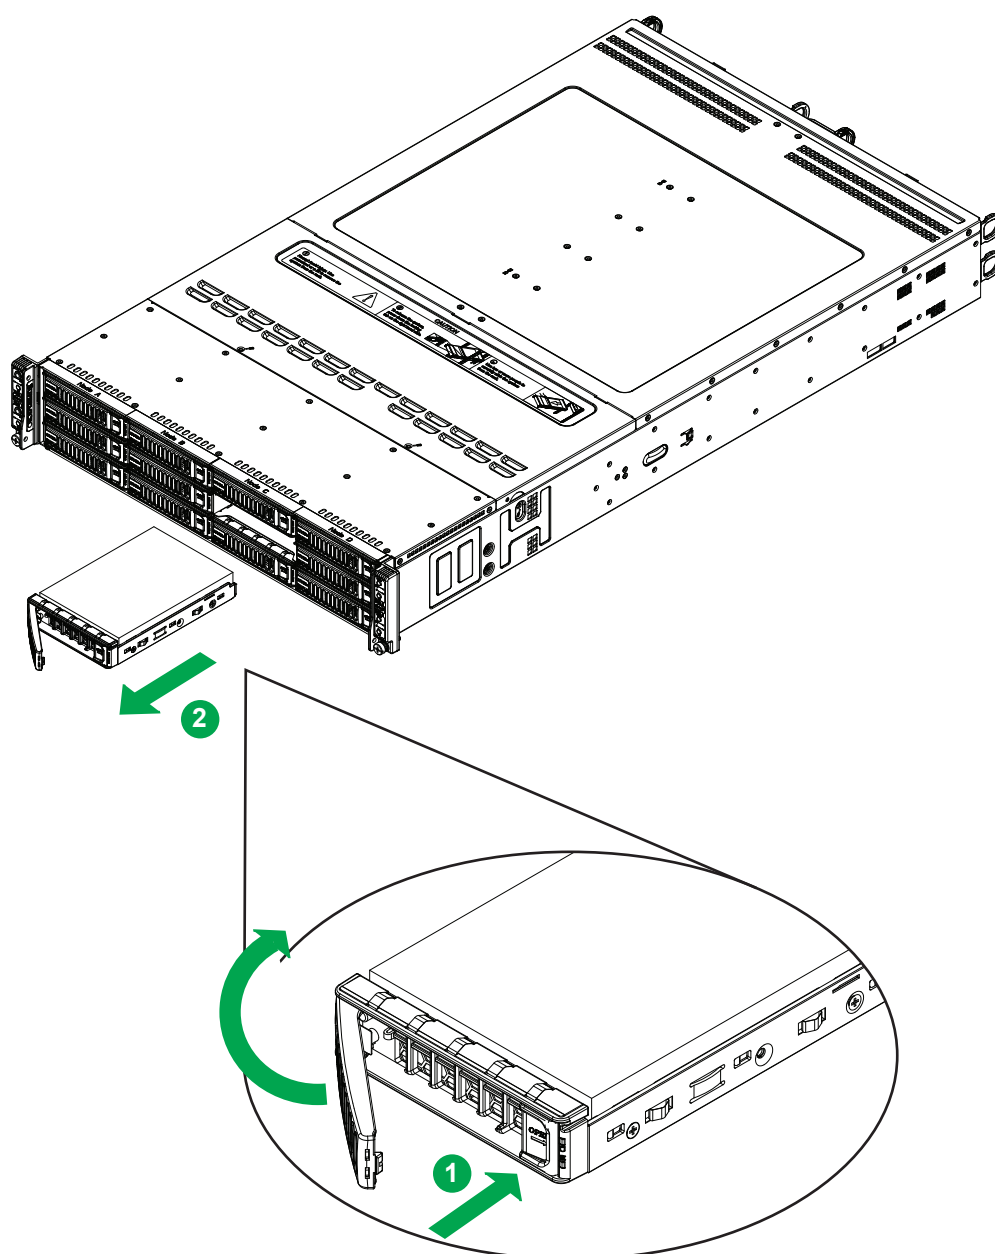

Figure 3-8. Removing a Drive Carrier
2. Use the handle to pull the carrier out of the chassis (Figure 3-8).